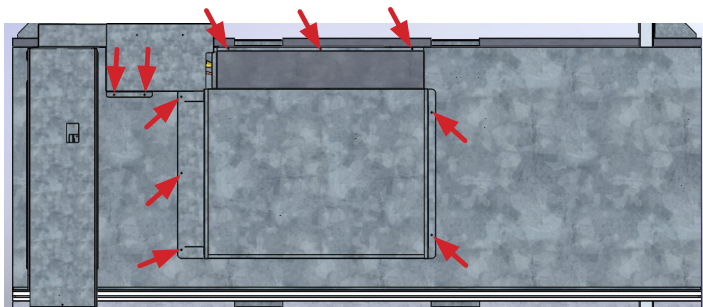
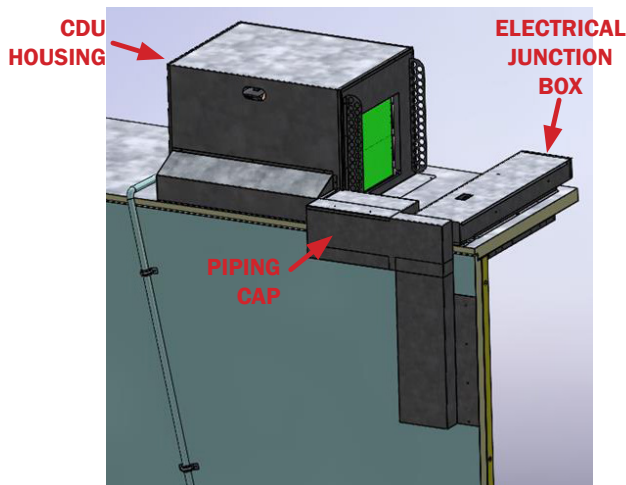

Fig. 61 Location of piping cap fasteners and CDU housing screws (3-5 door cases)
Fig. 62 Rear view of final install (high charge cases)
8. With piping connections reconnected and electrical junction box installed, the condensing unit cover and piping cover can be placed back onto the high charge cases using the screws retained from “DOORWAY PREP” steps 1 and 2 (Fig. 61). Review those steps to ensure covers are fastened properly to complete installation (Fig. 62).